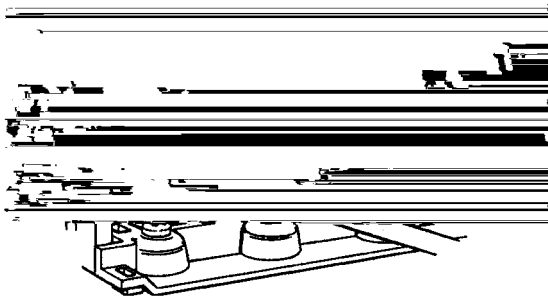

Figure 11
4. Relieve system pressure by opening the backwash drain valve (the sixth valve back from the control) with a screwdriver, Figure 11.
drain valve (the sixth valve back from the control) with a screwdriver, Figure 11.
2. Relieve system pressure by opening the backwash drain valve (the sixth valve back from the control) with a screwdriver, Figure 11.